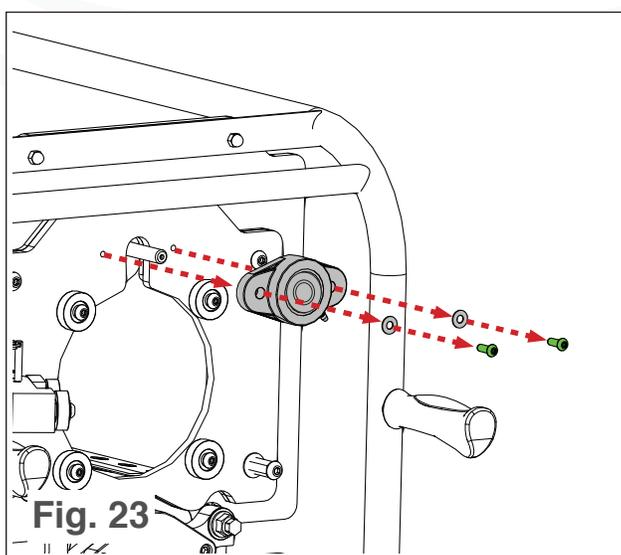

Fig. 23
2. Remove the bolts and washers on the brush bearing flange located on the tumbler belt side of the machine (see Fig. 23).
3. Remove the brush bearing flange on the tumbler belt side of the machine (see Fig. 23).